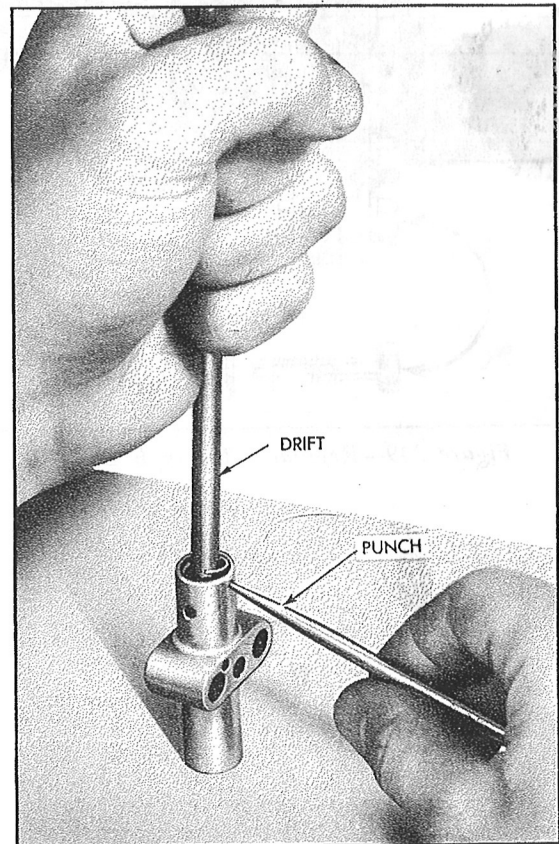

Figure 244—Removal of Lock Ring
*Step 1.*—Holding the pressure control valve with the open end up, press down against the insert using the  $\frac{5}{16}$ " round drift. Insert the tapered point punch through one of the small lock ring holes in the end of the valve body, and remove the lock ring. See Figure 244.